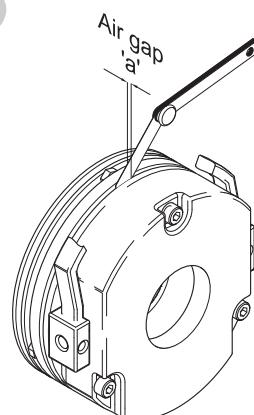

Figure 51 – Hoist Brake Air Gap (Checking)
The air gap 'a' (between the stator (5) and the armature plate (1)) should be checked in at least three positions around the circumference of the brake using non-magnetic feeler gauges (see Figure 51). The air gap should not exceed the maximum air gap figure given in the above table.